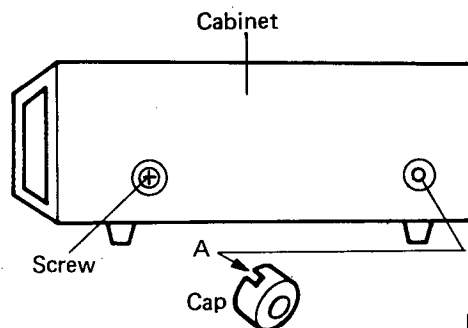

Figure 1
Insert a metal rod into the hole A of the CAP as shown in Fig. 1 and remove the CAP, and remove screws (4).